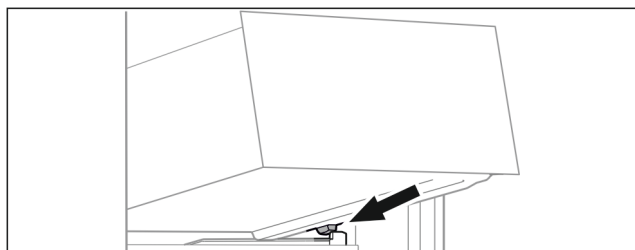

Fig. 134
- Place drawer at an angle behind the stoppers on the moulded rib. (see Fig. 134)